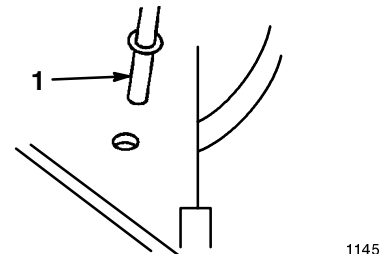

Figure 42
4. Insert the chute support rod through the hole at the right rear of the deck (Fig. 42).